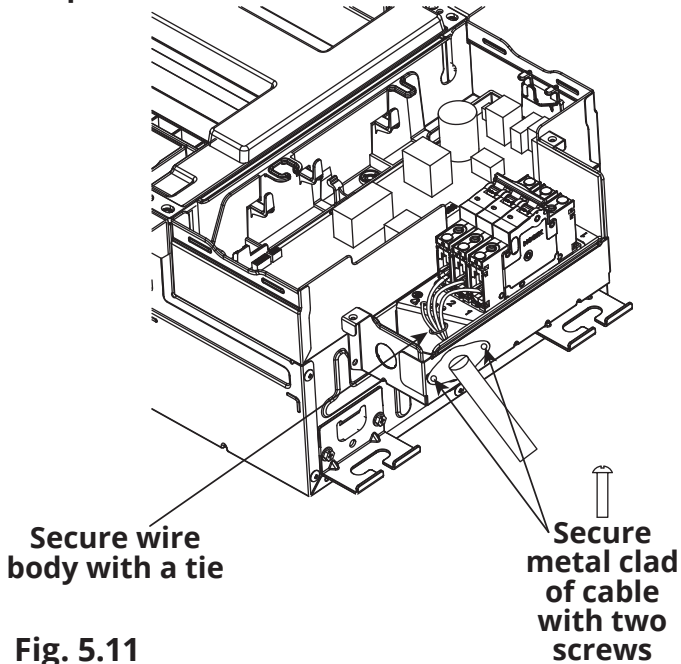

Fig. 5.11
- Secure the metal clad of the DIYPRO™ Cable to the circuit breaker box with two ST3.9\*10 screws. Then, secure the wire body within the circuit breaker box with a tie. Please see Fig. 5.11 below.